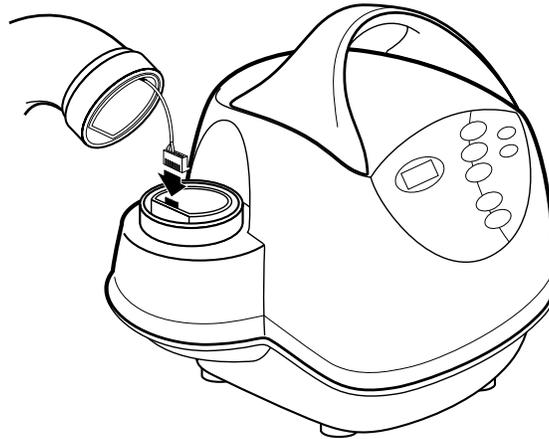

Figure 3. Hose replacement
4. By hand or using a needle-nose pliers, carefully detach the cable connector from the header plug located inside the hose connector (see "Figure 3. Hose replacement").